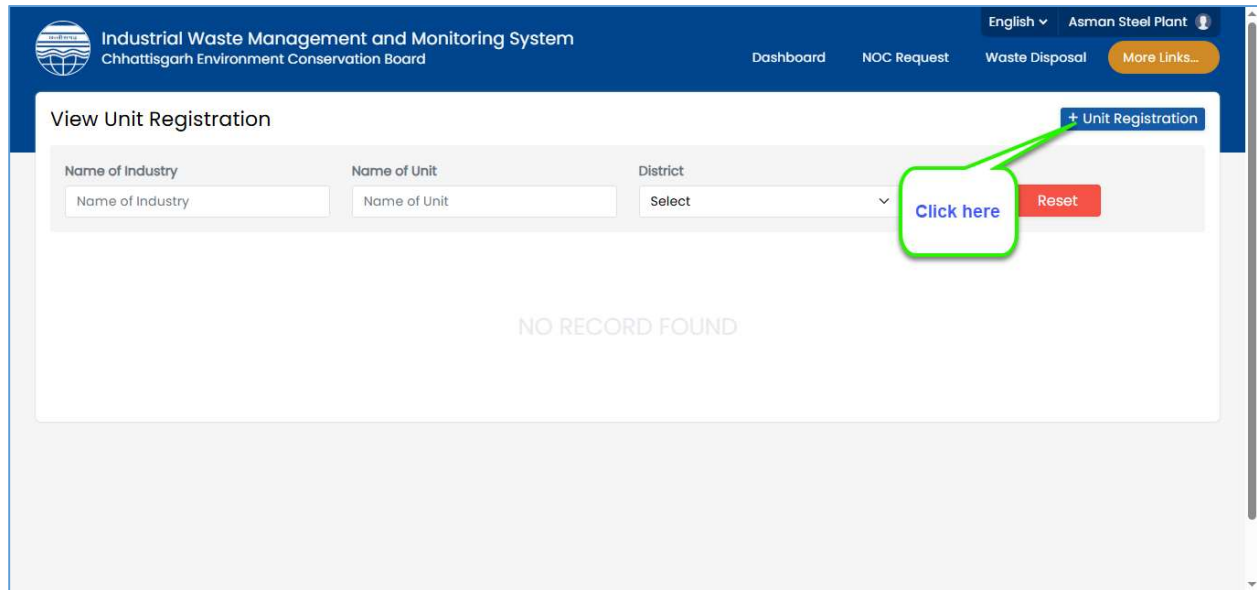

Figure 3-3 View Unit Registration Screen (1)
Take reference from the **Fig 3-3**.
- For a new unit registration, click on Unit Registration button, as highlighted in the **Fig 3-3** above.